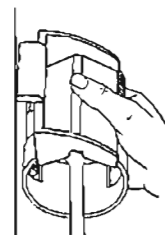
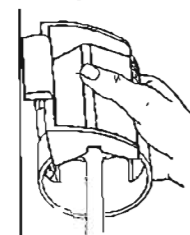
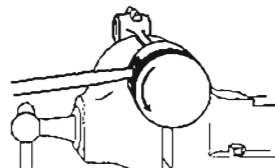
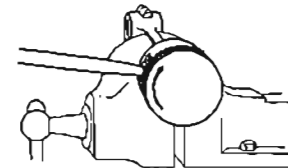

Fig. 3
Fig. 4
Fig. 5
Fig. 6
- F.** Rocking the top of the piston away from you as shown in Fig. 3 will indicate whether or not the rod is twisted. Notice that V-block is away from surface plate at the top. To correct twist shown in Fig. 3 it is necessary to turn piston to left with bending bar as shown in Fig. 5. To correct opposite twist shown in Fig. 4 turn piston to right with bending bar as shown in Fig. 6.